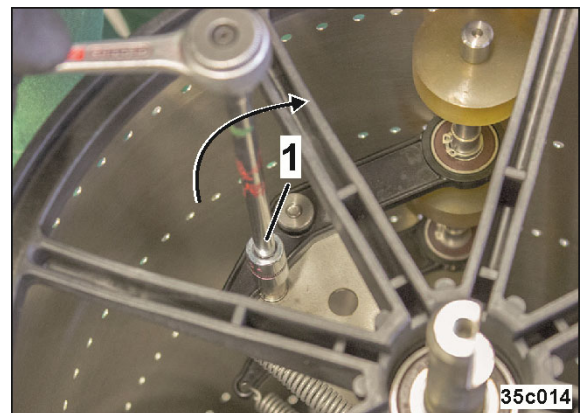

Fig. 285
2. Turn in the relief pins (Fig. 285/1) by approx. half a turn